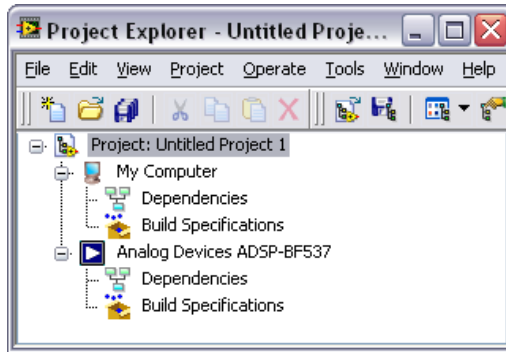

Figure 6. Expanding the Blackfin Target in the Project Explorer Window
- Expand the ADSP-BF537 target as shown in Figure 6. LabVIEW automatically adds **Dependencies** and **Build Specifications** under the target. SubVIs appear under **Dependencies** when you add a VI that contains subVIs to a project. Build specifications you create for a target in a project appear under **Build Specifications** in the **Project Explorer** window. Refer to the Creating the ADSP-BF537 Build Specification section for information about how to create a build specification.